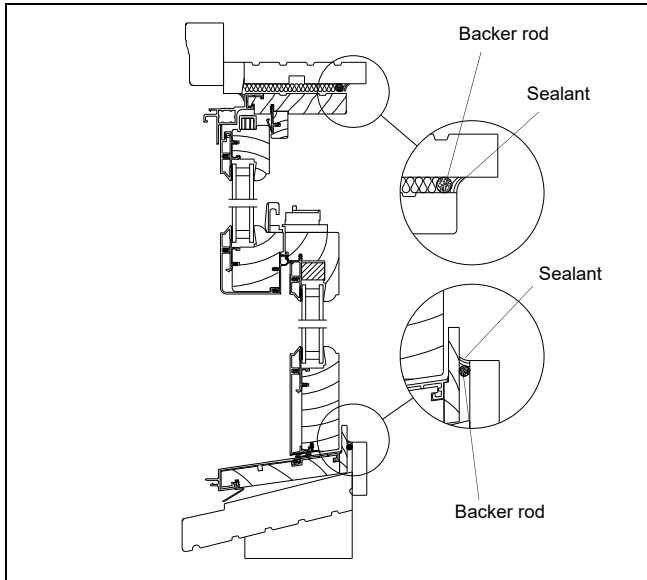

Figure 18
16. For interior installed applications, run a bead of sealant between the insert frame and existing frame around the entire interior perimeter. (If necessary, install backer rod prior to sealant application.) See figure 18. Replace interior sash stops or new trim as desired.